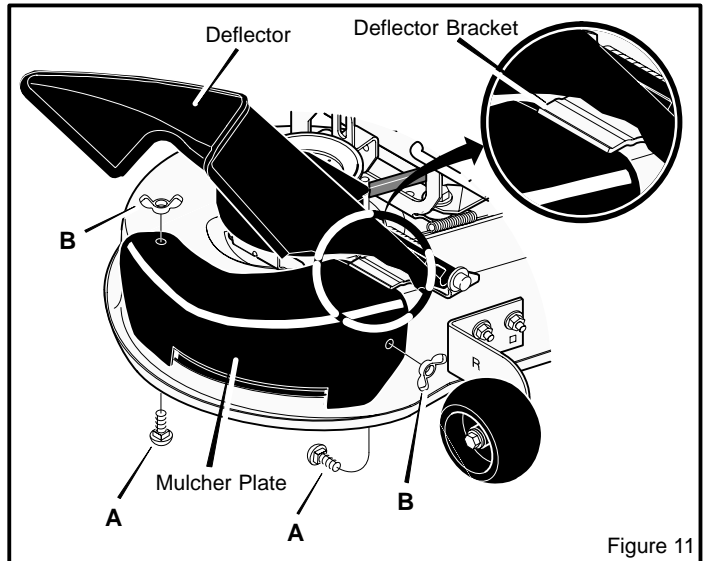

Figure 11
1. Raise the **deflector**. Remove the two wingnuts **B** and two carriage bolts **A** (Figure 11).
2. Slide the top of the **mulcher plate** under the **deflector bracket** (Figure 11).